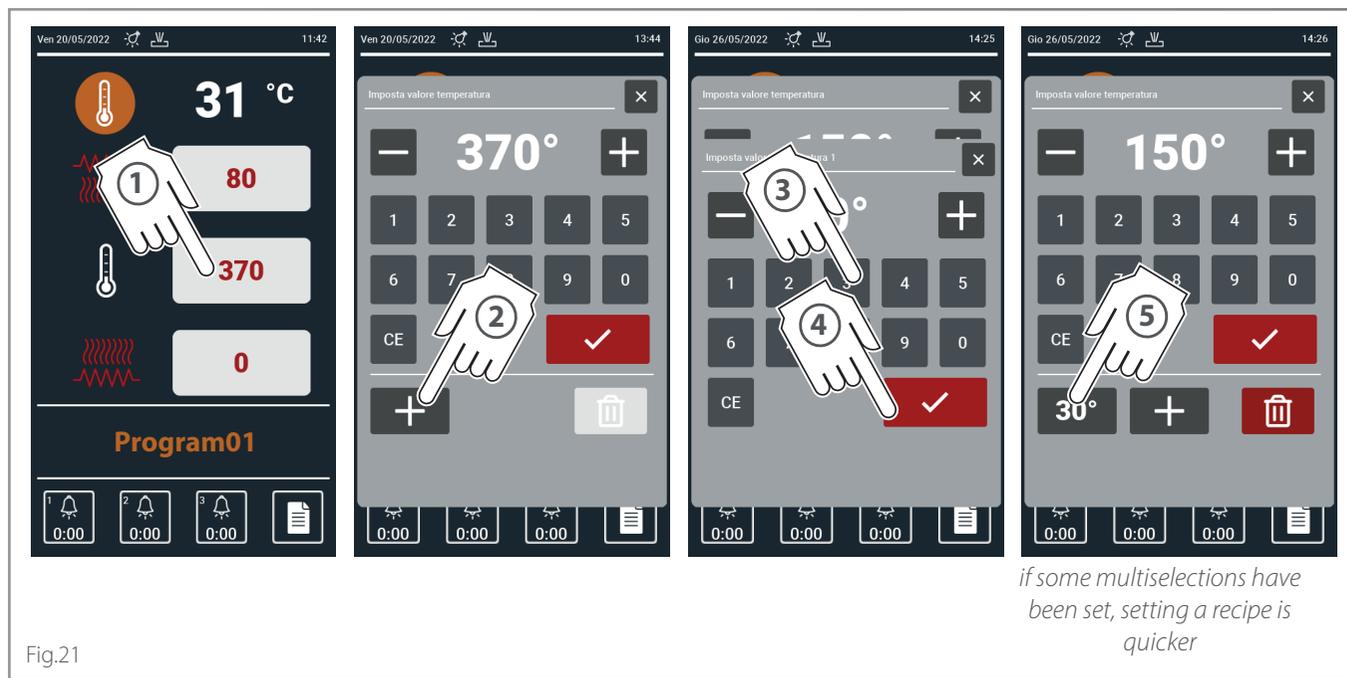

Fig.21
How to set a multi selection **Fig.21**
- **secondary values** ► values that, while cooking, can be quickly selected as an alternative to the main default one (for instance see ► Fig.21).